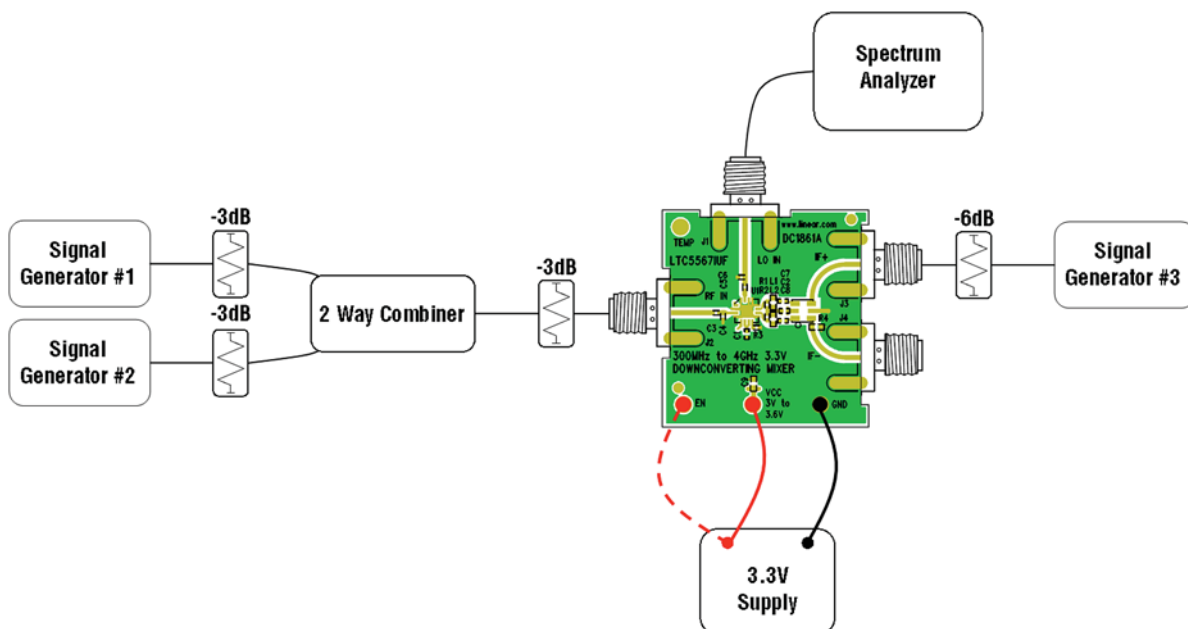

Figure 1. Test Setup for Mixer Two-Tone Measurements
- High quality combiners should be used to present a broadband 50Ω termination on all ports as well as provide good port-to-port isolation. Attenuator pads may be used on the inputs to the combiner and the RF input port of the LTC5567 mixer shown in Figure 1. Adding attenuator pads further improves source isolation and helps prevent the signal generators from producing intermodulation products.
1. Connect all test equipment as shown in Figure 1.